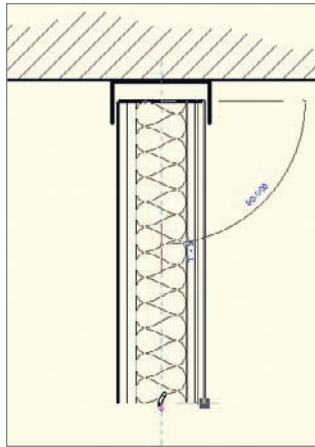

FIGURE 12.79 Drawing the insulation
5. Place the insulation starting at the midpoint of the top of the stud and terminate the insulation at the bottom of the stud, as shown in Figure 12.79.